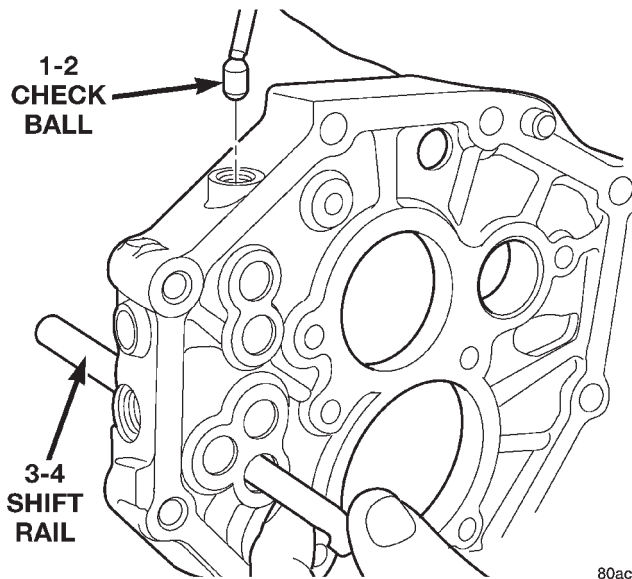

Fig. 76 Install 1-2 Check Ball
(1) Install the 3-4 shift rail into the intermediate plate.
(2) Install the 1-2 elongated check ball into the intermediate plate (Fig. 76).